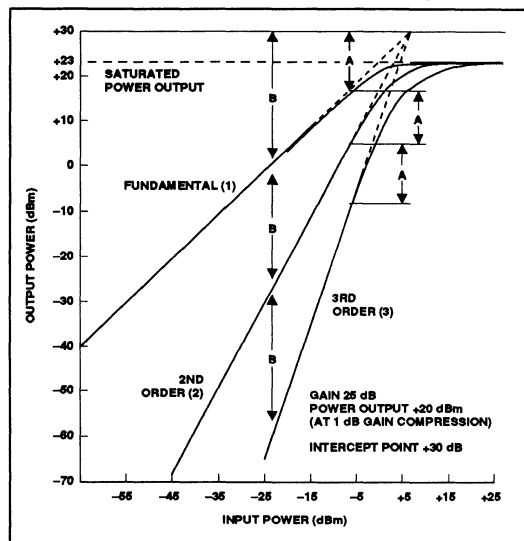

Figure 4. Intercept Point Responses for a Typical Amplifier
If the fundamental input power (1) vs. output power response of an amplifier is plotted on a log-log scale, it will have 1:1 slope (see figure 4) in the linear operating region. A plot of the second-order intermodulation products (2) of most amplifiers, plotted on the same scale will have a slope of 2:1 and the third-order products (3) a slope of 3:1.
Referring to the typical amplifier response curve of figure 4, the output power at 1dB gain compression is +20 dBm and the intercept point is +30 dBm, a difference of 10 dB. Since the difference between the slope of the second order response curve and the fundamental curve is 1:1, the second order spurious products will be the same distance down from the fundamental as the fundamental is from the intercept point at any output power. Similarly, since the difference between the slope of the third order curve and the fundamental is 2:1, the third order products will be twice the distance down from the intercept point at any output power in the linear range.
If the amplifier in figure 4 is driven to an output power of 0 dBm (30 dB down from the intercept point), the second order spurious products will be at -30dBm, and the third order products at -60 dBm.